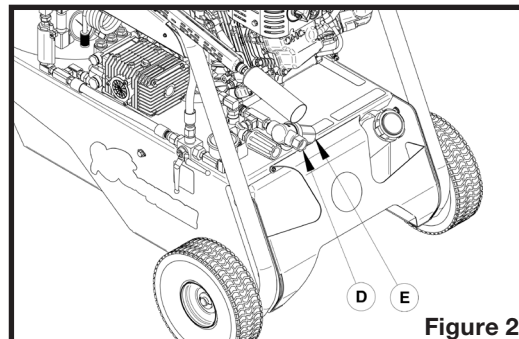

Figure 2
5. Check the water inlet filter. Unscrew the bowl (E on figure 2) and rinse if needed. Remove and clean the filter screen (F on figure 3). Put back in place the screen and bowl.